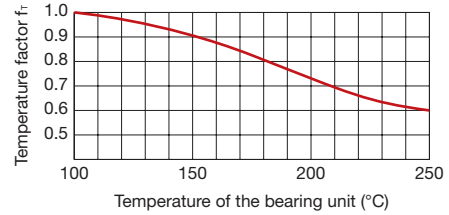

Fig. 1 Temperature factor (fr)
- fT : Temperature factor (see Fig. 1)